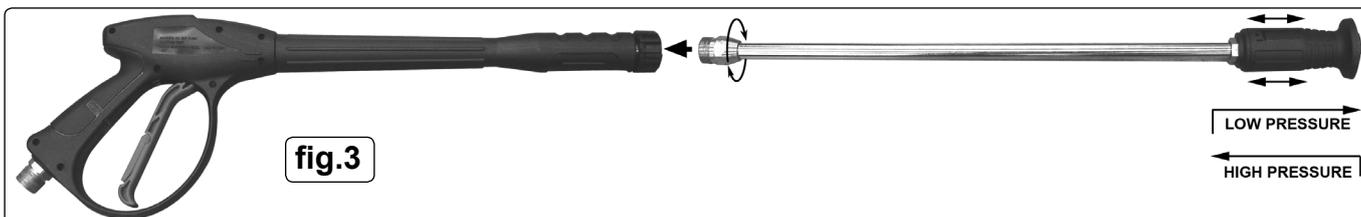

fig.3
- 3.1.3. Screw together the two halves of the lance as shown in fig.3.
- 3.3.1. **PRESSURE.** To change from high pressure to low pressure the whole nozzle moves backwards and forwards by about 8mm on the end of the lance. Pull the nozzle back towards the handle for high pressure and push it away from the handle for low pressure (see fig.3).